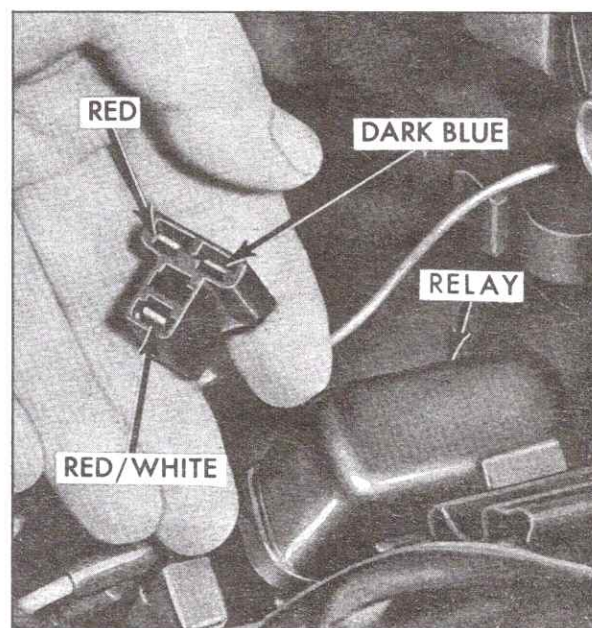

Fig. 15-45 Relay Multiple Connector
5. Detach multiple connector from relay. Touch one lead of test lamp to connector terminal attached to dark blue wire, Fig. 15-45, and ground other lead. Lamp should light. If lamp lights but relay did not click in step 4, the relay or light blue wire to the thermal switch is defective and must be replaced. If lamp does not light, proceed to step 6.
10. Touch one lead of test lamp to relay connector terminal attached to red wire, Fig. 15-45, and ground other lead. Lamp should light. If it does not, proceed to step 11.